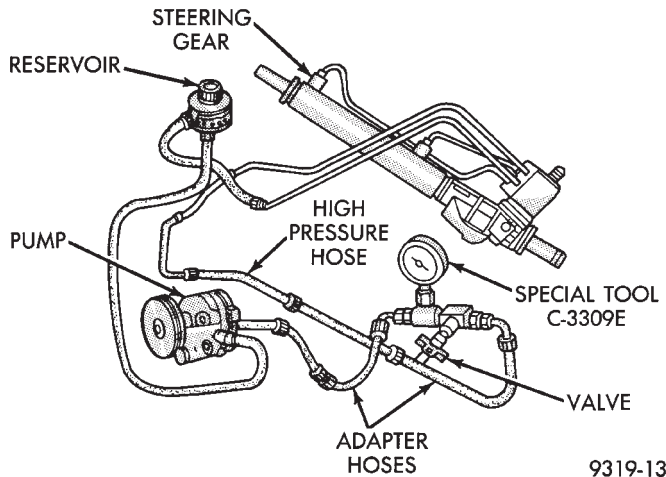

Fig. 4 Pressure Test Gauge
- (1) Check belt tension and adjust as necessary.
- (2) Disconnect high pressure power steering hose at power steering pump (Fig. 4). Use a container for dripping power steering fluid.
- (3) Connect Pressure Gauge, Special Tool C-3309-E (Fig. 4) to both hoses using adapter fittings. Connect spare pressure hose to gear or pump.
- (4) Open the test valve completely.
- (5) Start engine and let idle.
- (6) Check fluid level, add fluid as necessary.
- (7) Gauge should read below 862 kPa (125 psi), if above, inspect the hoses for restrictions and repair as necessary. The initial pressure should be in the range of 345-552 kPa (50-80 psi).